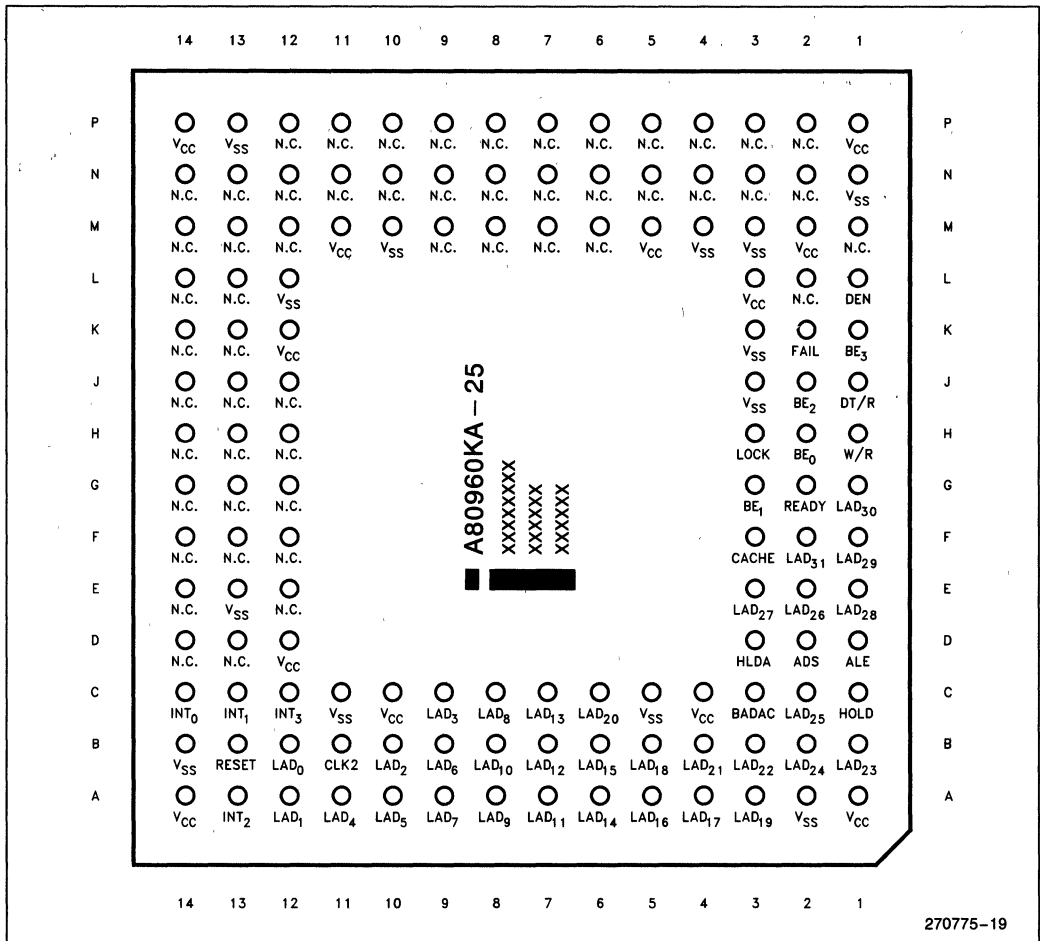
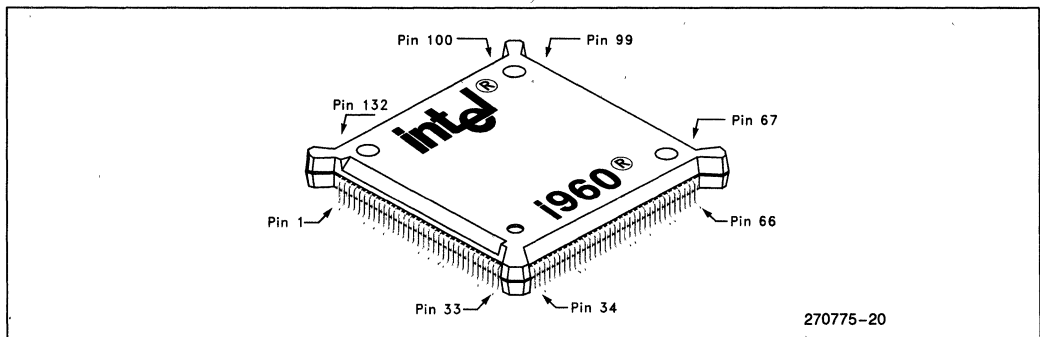
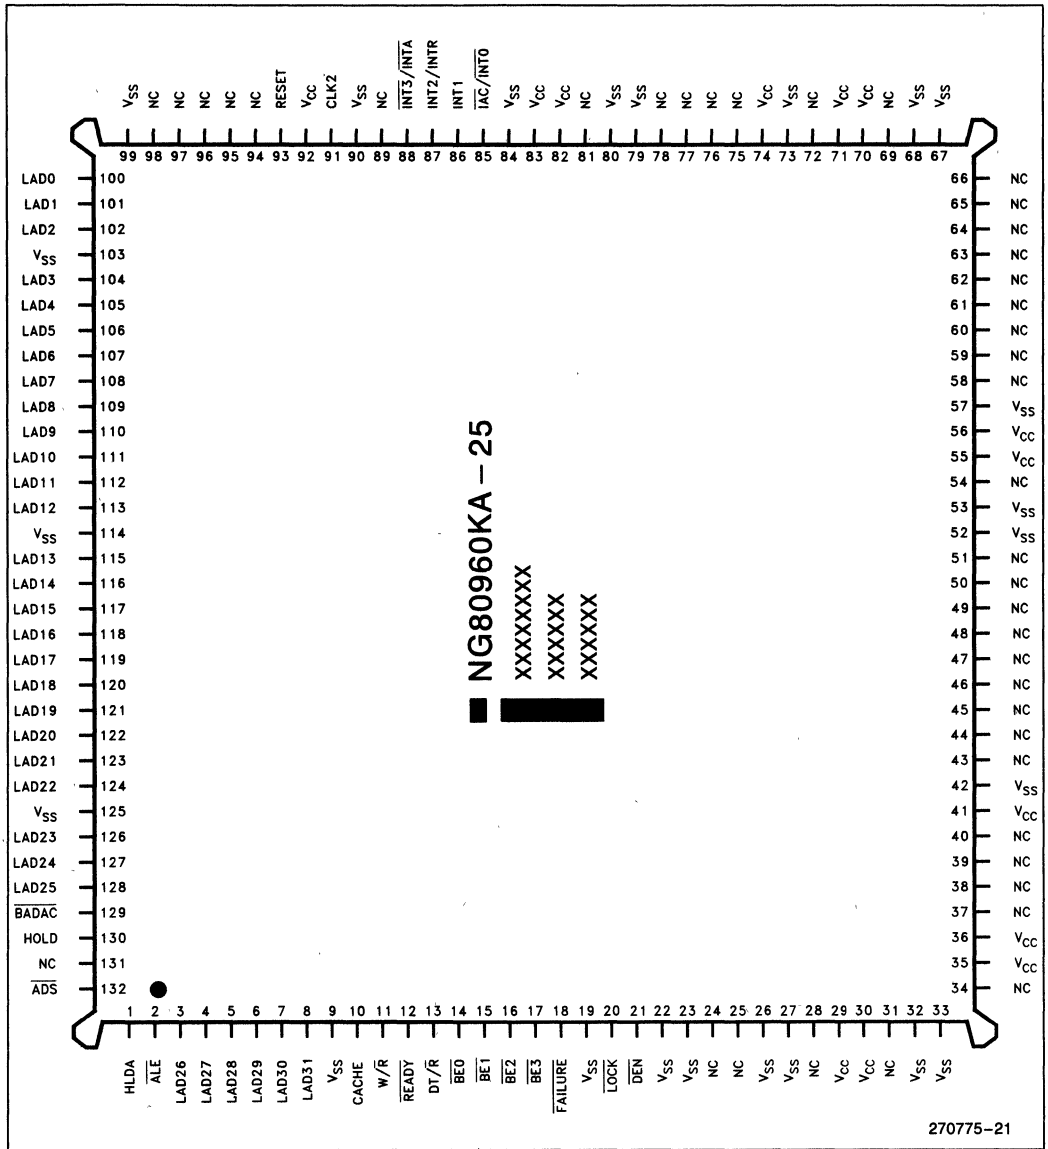

Figure 19. 80960KA PGA Pinout—View from Top (Pins Facing Down)
Figure 20. 80960KA 132-Lead Plastic Quad Flat-Pack (PQFP) Package
Figure 21. PQFP Pinout—View from Top
- 132-lead plastic quad flat pack (PQFP). This package uses fine-pitch gull wing leads arranged in a single row along the package perimeter with 0.025 inch (0.64 mm) spacing (see Figure 20).
The PGA and PQFP have different pin assignments. Figure 18 shows the view from the PGA bottom (pins facing up) and Figure 19 shows a view from the PGA top (pins facing down). Figure 20 shows the PQFP package; Figure 21 shows the PQFP pinout with signal names. Notice that the pins are numbered in order from 1 to 132 around the package perimeter. Table 9 and Table 10 list the function of each PGA pin; Table 11 and Table 12 list the function of each PQFP pin.